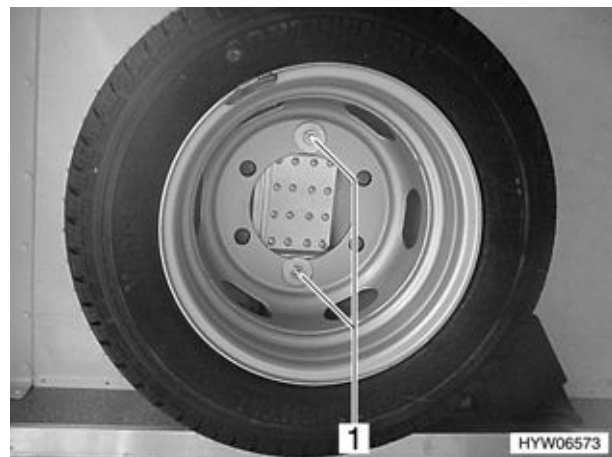

Fig. 195 Spare wheel in the rear storage space (variant 2)
- Use a wheelbrace to undo both bolts (Fig. 195,1).